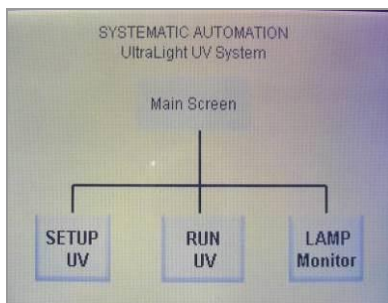

Figure 14. Select "RUN UV" on the Touch Screen Interface.
4. Select "RUN UV" on the Touch Screen Interface (Figure 14).